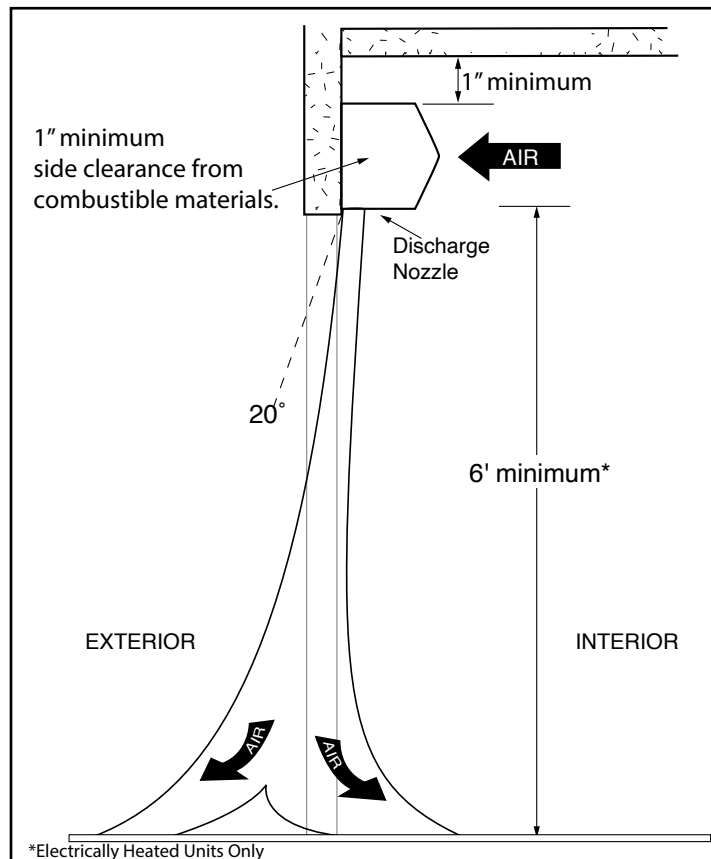

FIGURE 2 - Air Stream (for exterior mounting, see FIGURE 10)
- A. When determining the mounting location for the unit(s), make sure that nothing interferes with the curtain of air developed when the discharge vanes are directed from 0° to 20° toward the door opening. If the air stream strikes any obstruction (the top edge of the doorway, a door opening device, etc.), the effectiveness of the unit will be greatly reduced. **See FIGURE 2.**